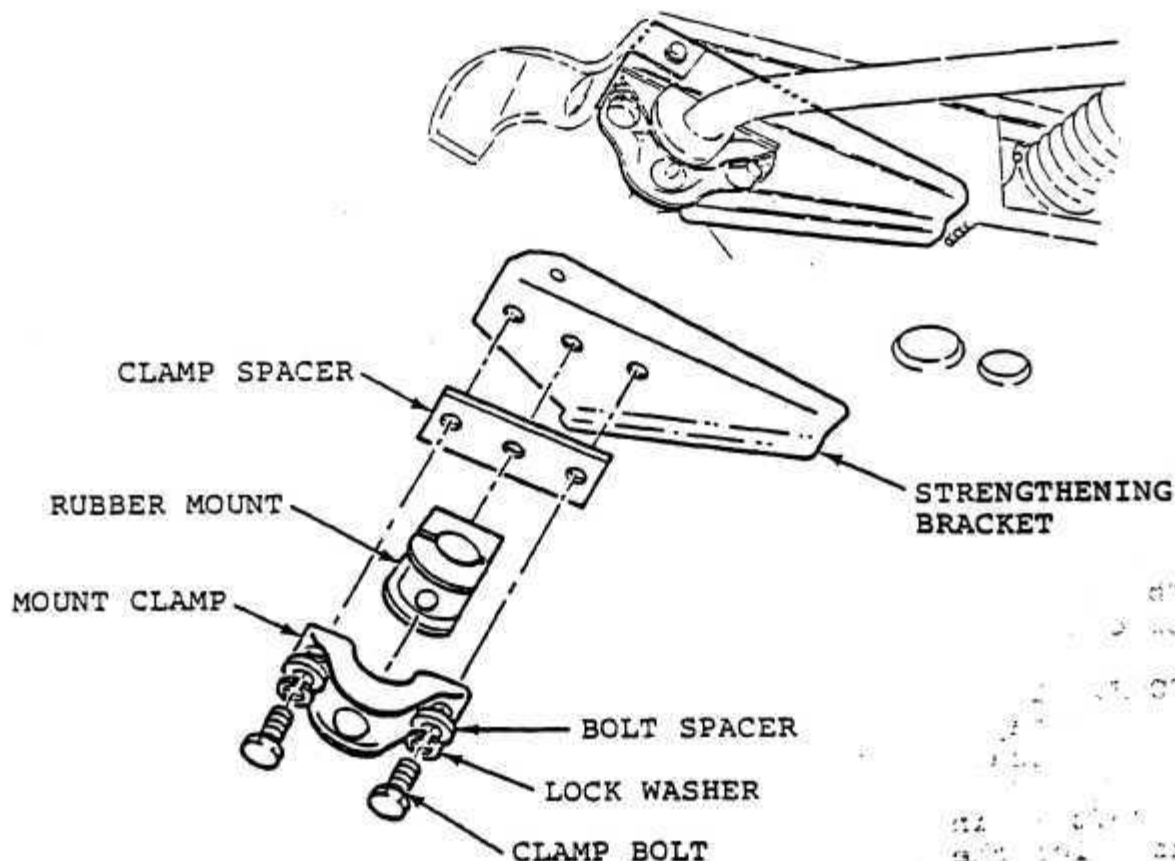

FIGURE 2
18. Reposition the original clamp spacers and the supplied stabilizer mount clamps (P/N 108998) and secure to the chassis extension with the supplied bolt spacers (P/N 111205), the original lock washers and the supplied bolts (P/N 111204) after the bolts are coated with Loctite 242 (See Figure 2). Torque to 35 mm (26 ft.lb.).